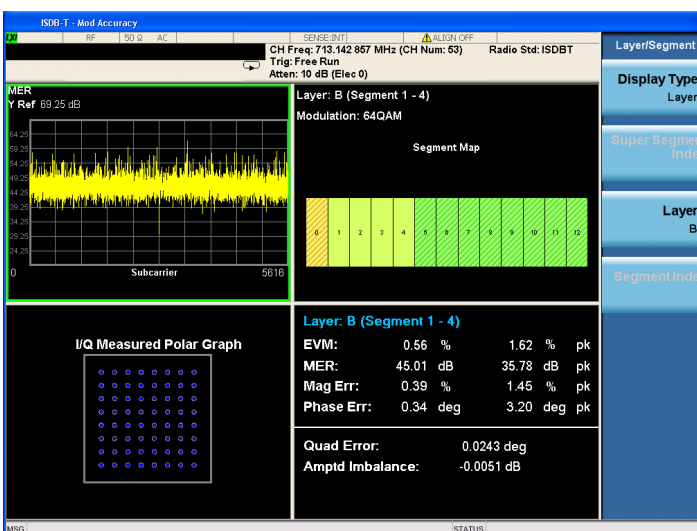

Figure 12. Modulation accuracy measurement with I/Q error view
Switch to the I/Q error view (Figure 12)	[View/Display] {I/Q Error (Quad View)}
- **I/Q error view** (Figure 12): This is a four-window view which includes:
In I/Q Error view, you can see the measurement results of each layer or segment by setting the display type. Four windows are displayed in Figure 12. The MER versus sub-carrier (top-left) window displays the MER result for the entire frame. The segment map window (top right), data segment/layer polar graph window (bottom left), and result metrics window (bottom right) indicate the results for the selected display data.